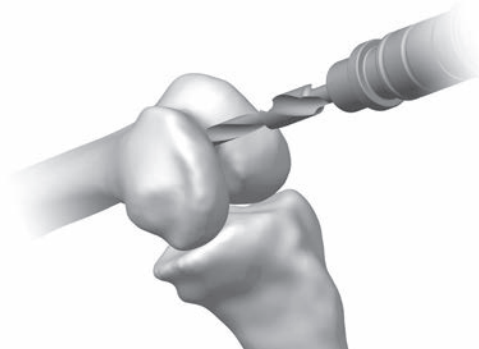

Fig. 7
- Drill the IM canal using the 8mm IM Step Drill (Fig. 7). Suction the canal to remove medullary contents.